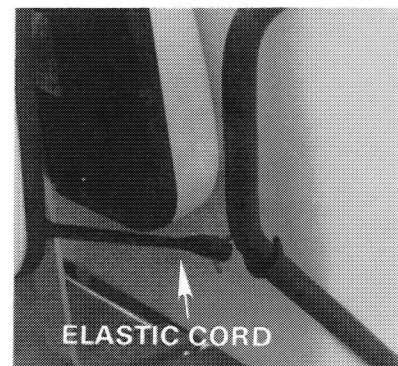

Figure 25
There is an enclosed storage compartment underneath the rear seat with two (2) cu. ft. of storage area. The rear seat can be lifted and fastened in place with the elastic cord to give access to the storage compartment (Figure 25).
An optional on-board charger is available for the Tourall Electric; it should be plugged into a properly grounded nominal 115 Volt, 60 Hertz outlet. The AC line to which the charger is connected must be capable of supplying 10 amperes to each charger. The rear seat should be held up with the rubber cord while charging (Figure 25).